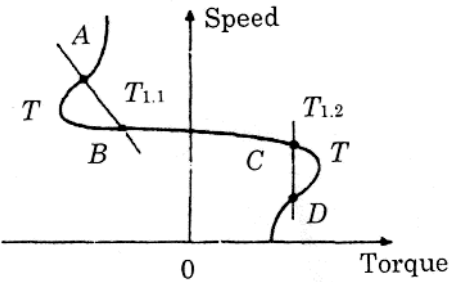

Fig.1
1. Fig.1 shows plots of speed Vs motor and load torques. Comment on the stability of the operating points A, B, C and D.